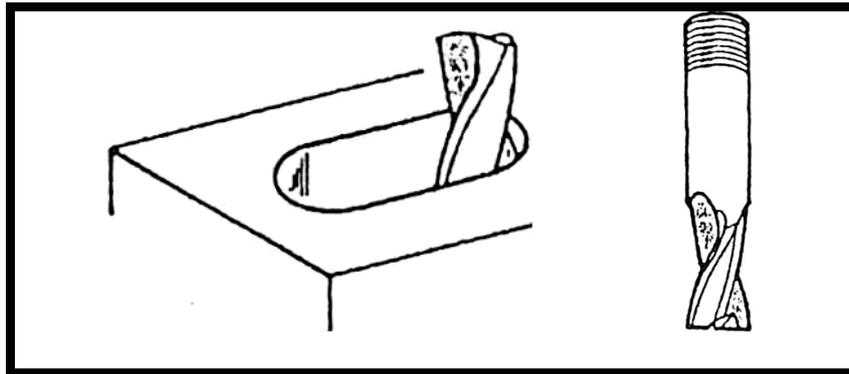

FIGURE 1.3
1.8 Identify the type of milling cutter shown in FIGURE 1.3.